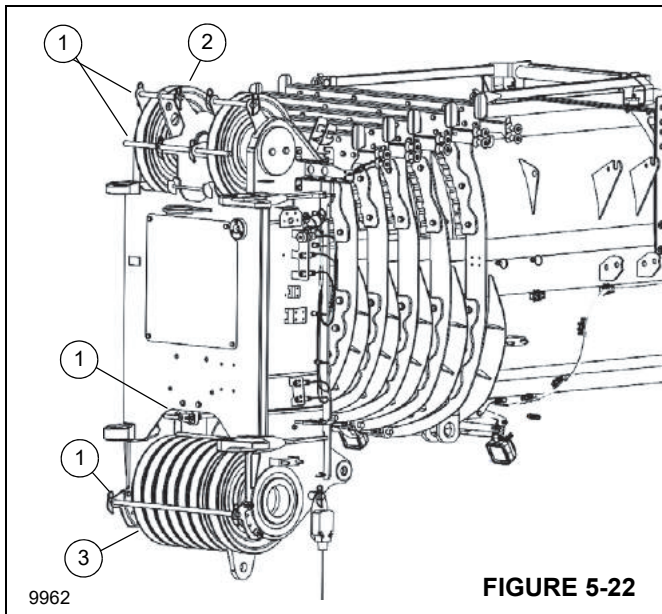

FIGURE 5-22
2. Remove the retaining rods (1, Figure 5-22).
3. Guide the rope over the upper boom nose sheave (2).
4. Guide the rope over the lower boom nose sheave (3).
6. Reinstall all the retaining rods (1) and secure with retaining clips.
1. Remove the retaining rods (1, Figure 5-22).
3. Take the hoist rope off of the upper boom nose sheave (2) and place it on the ground on the left side. Spool the hoist rope on the hoist drum.